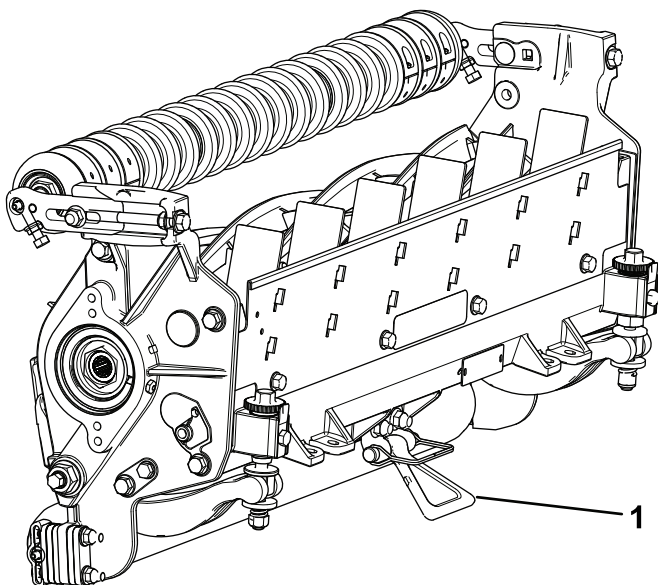

**Figure 12**
2. Turn the bedbar-adjusting screws counterclockwise to ensure that the bedbar does not contact the reel (Figure 12).